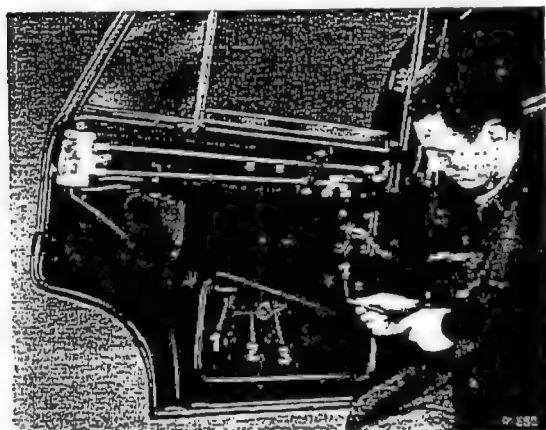

Fig 72-8/1
3. Wind the sliding window down to its lowest position and remove the two fixing screws (1) for the sliding window from the lower sash channel (2) (Fig. 72-8/1).